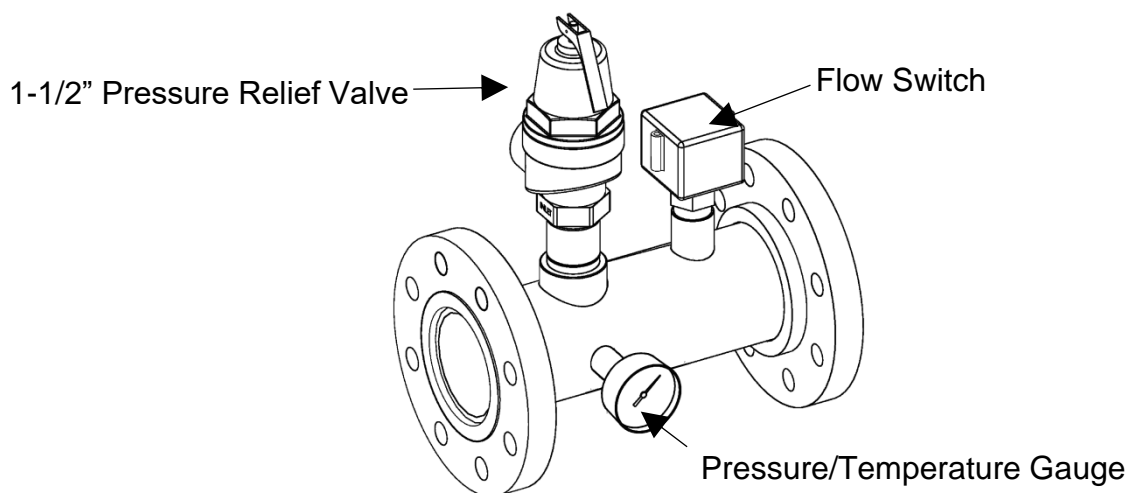

Figure 7: Manifold Assembly and Components for EXT 1500 2S, 2300 2S, 2600 2S & 3000 2S
5. Locate the BMM module with the “FL” label (Figure 7), and remove the black jumper wire from the terminals of the connector shown in the detail of Figure 7. Connect the two flow switch wires to the two terminals. Flow switch wires have no polarity, so can be inserted without regard to position.